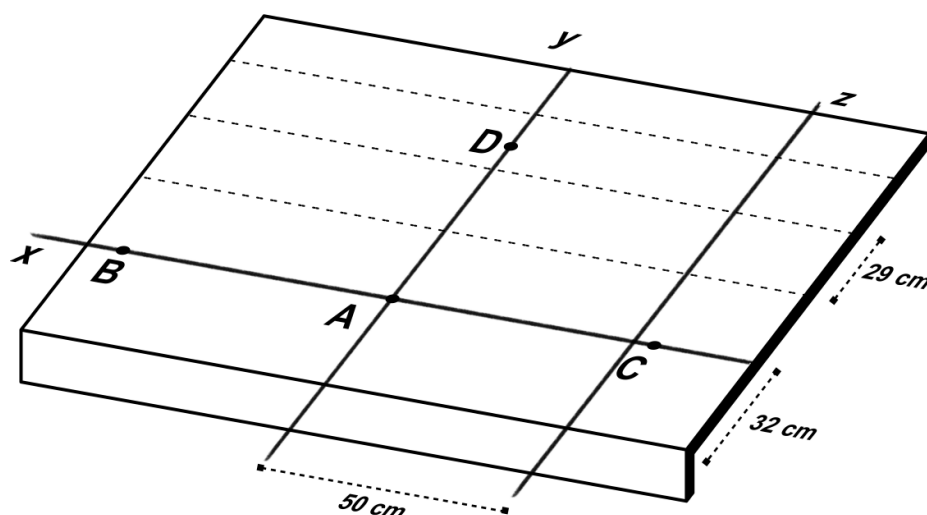

Fig. 3 - Tracing of the pitch [cm]
- Draw horizontal lines parallel to **x**, each one distant 29 cm from the previous, until you reach the ridge - see Fig. 3.